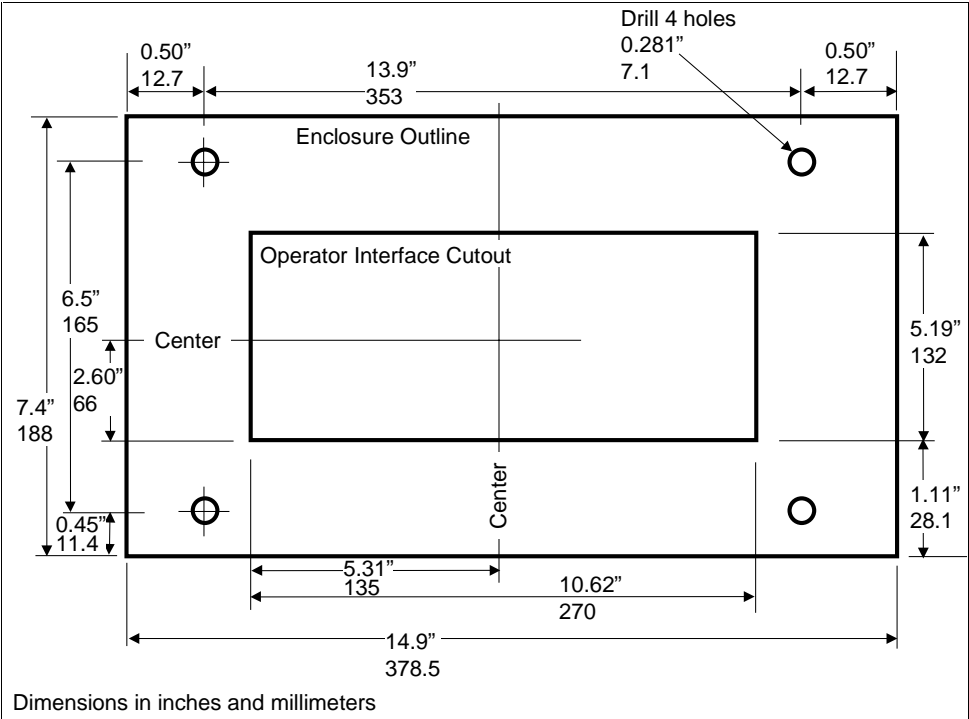

Figure 1 Measurements for enclosure
1	<p>See Figure 1. Using the outer dimensions of the enclosure outline, check that your panel can accommodate the enclosure. Check for clearance from adjacent panel mounted instruments.</p> <p>Check for clearance to open the enclosure door. The hinge can be at the top or bottom depending on your preference. To open the enclosure door 90 degrees, you need 1½" (38mm) additional clearance measured perpendicularly from the hinge side of the enclosure. To open the door 180 degrees, you need 7¾" (197mm) additional clearance.</p>
3	<p>See Figure 1. If you do not have an Operator Interface (OI) installed, measure, mark, and cut a hole for the OI.</p>
4	<p>Measure, mark, and drill 4 holes according to Figure 1. These holes accommodate the 4 bolts of the enclosure.</p>